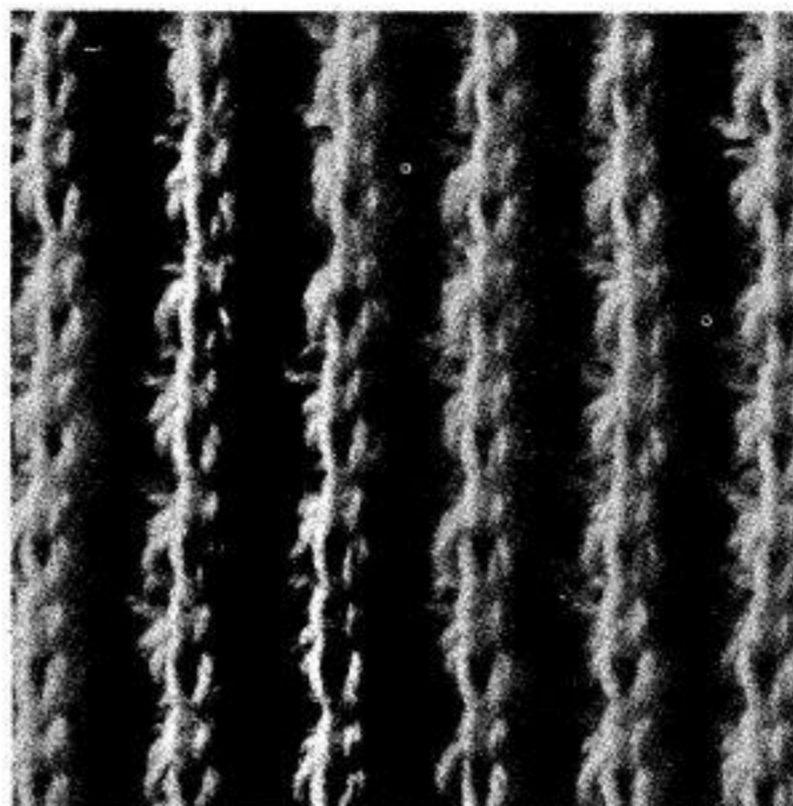

Fig. 71
**Pattern No. 6 (K3 P1 Rib with Tucking on Both Ribber and Machine) ... Fig. 71**